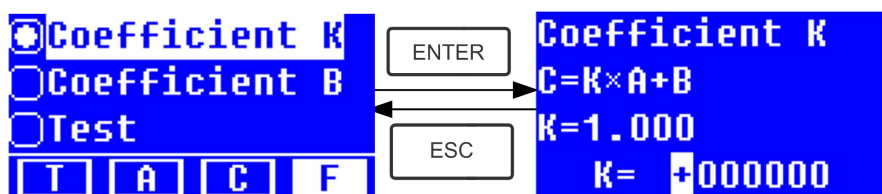

Fig. 4-18
- ★ Use Arrow Key to move the cursor on “**Coefficient K**” and press to go into **K** setting interface. (Fig. 4-18); Input every bit of K by Arrow Key and press to confirm. When the last bit finished, system will return the former Interface automatically.